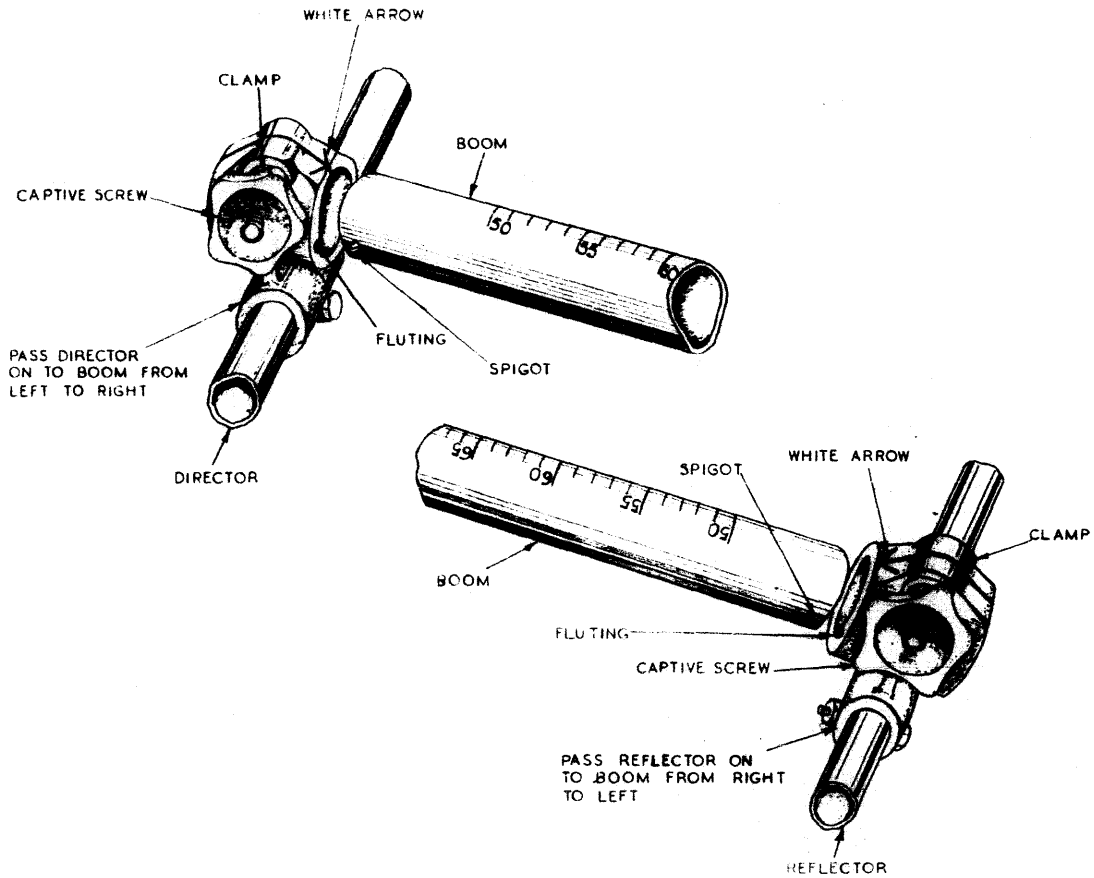

FIG. 7 MOUNTING DIRECTOR AND REFLECTOR ON BOOM
(4) Fitting the Director/Reflector Elements to the Boom (Fig. 7)